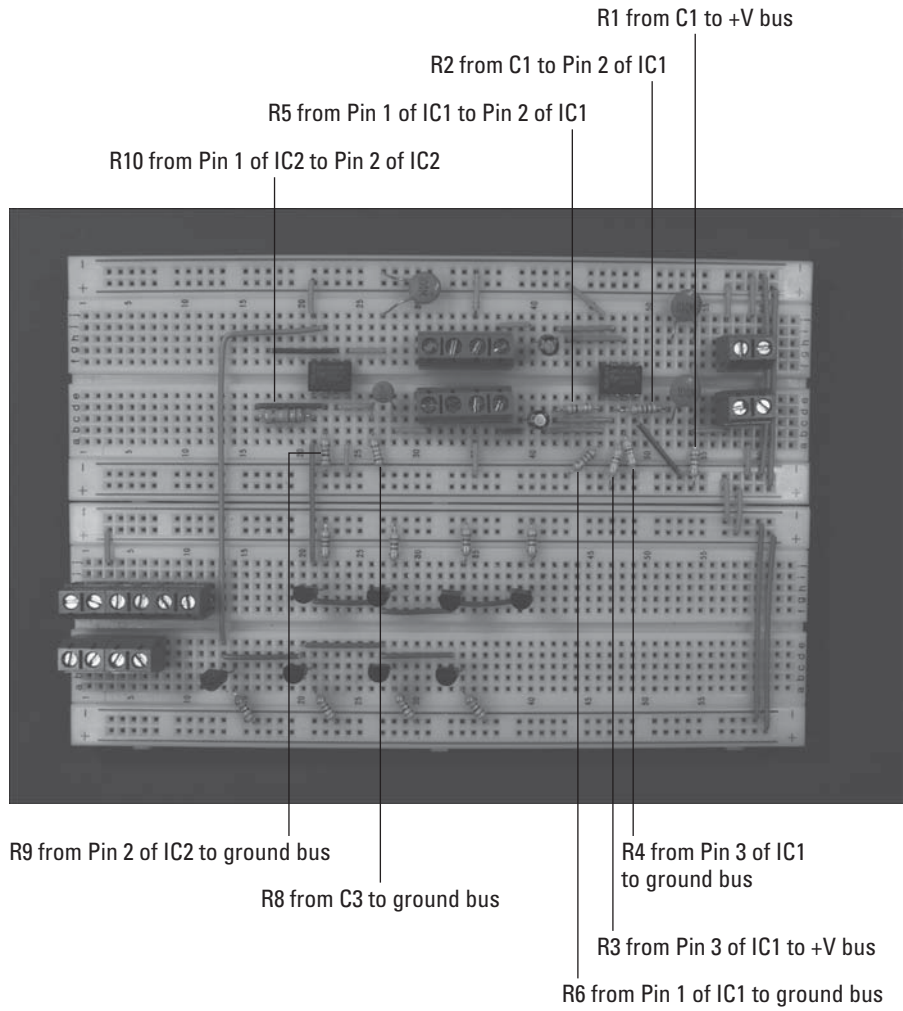

Figure 5-12: Insert more resistors onto the breadboard.
9. Insert one 2.2 kohm resistor (R1), one 2 kohm resistor (R2), two 47 kohm resistors (R3 and R4), one 100 kohm resistor (R5), two 5 kohm resistors (R6 and R8), one 1 kohm resistor (R9), one 5 kohm resistor (R6), and one 220 kohm resistor (R10) on the breadboard, as shown in Figure 5-12.